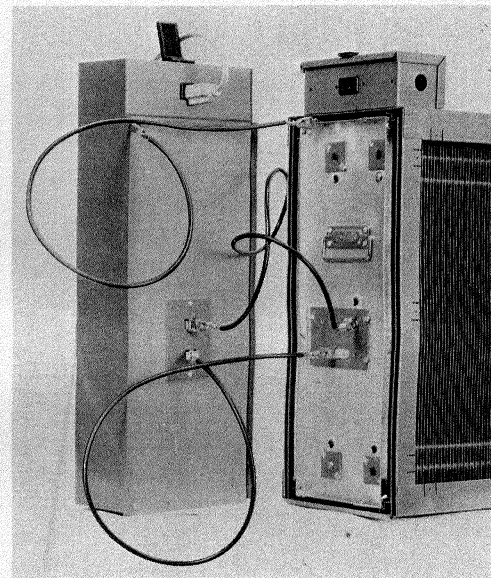

FIG. 14—COLLECTING CELL CHECK-OUT
1. Connect the power pack to one cell using the jumper wires as illustrated in figure 14.